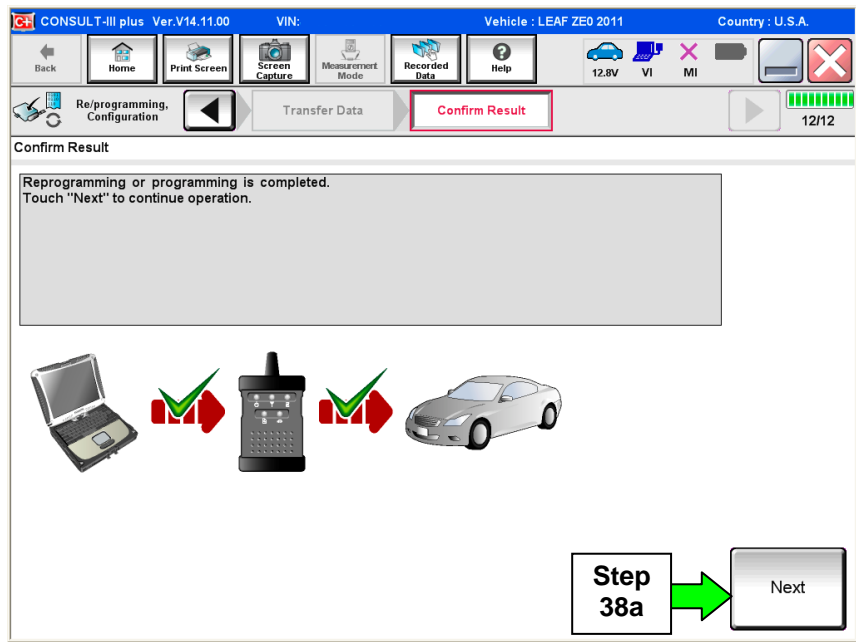

Figure 34
38. When the screen in Figure 34 appears, reprogramming is complete.